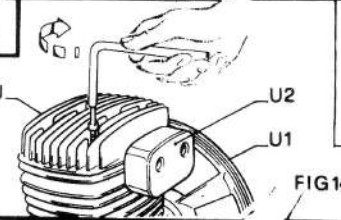

FIG 14
- Make sure that the cylinder head bolts are tight after the first hour of work to allow the running in of the machine (fig. 14). Torque 25 Nm ~ 2,5 Kgm.